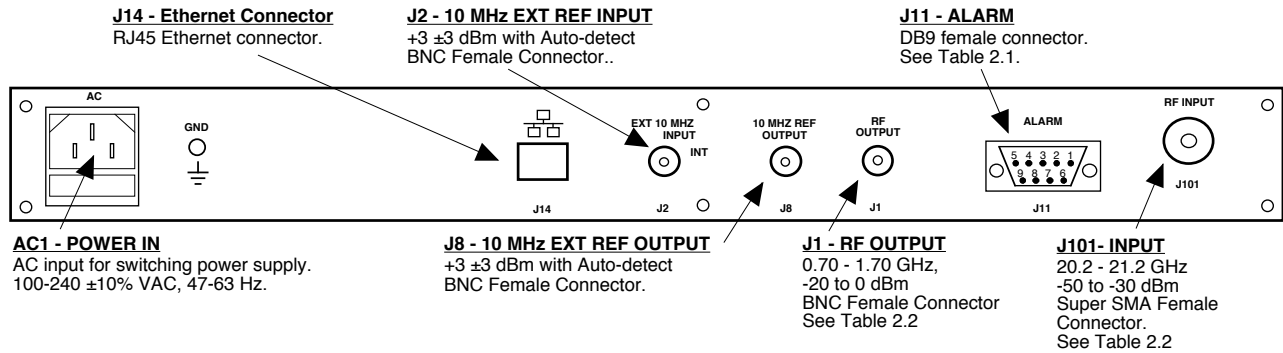

FIGURE 2.1 3116-202#-1700 Rear Panel I/O's
Figure 2.1 shows the input and output connectors on the rear panel.
1. Connect a -50 dBm to -30 dBm signal to RF IN, J101 (Figure 2.1).